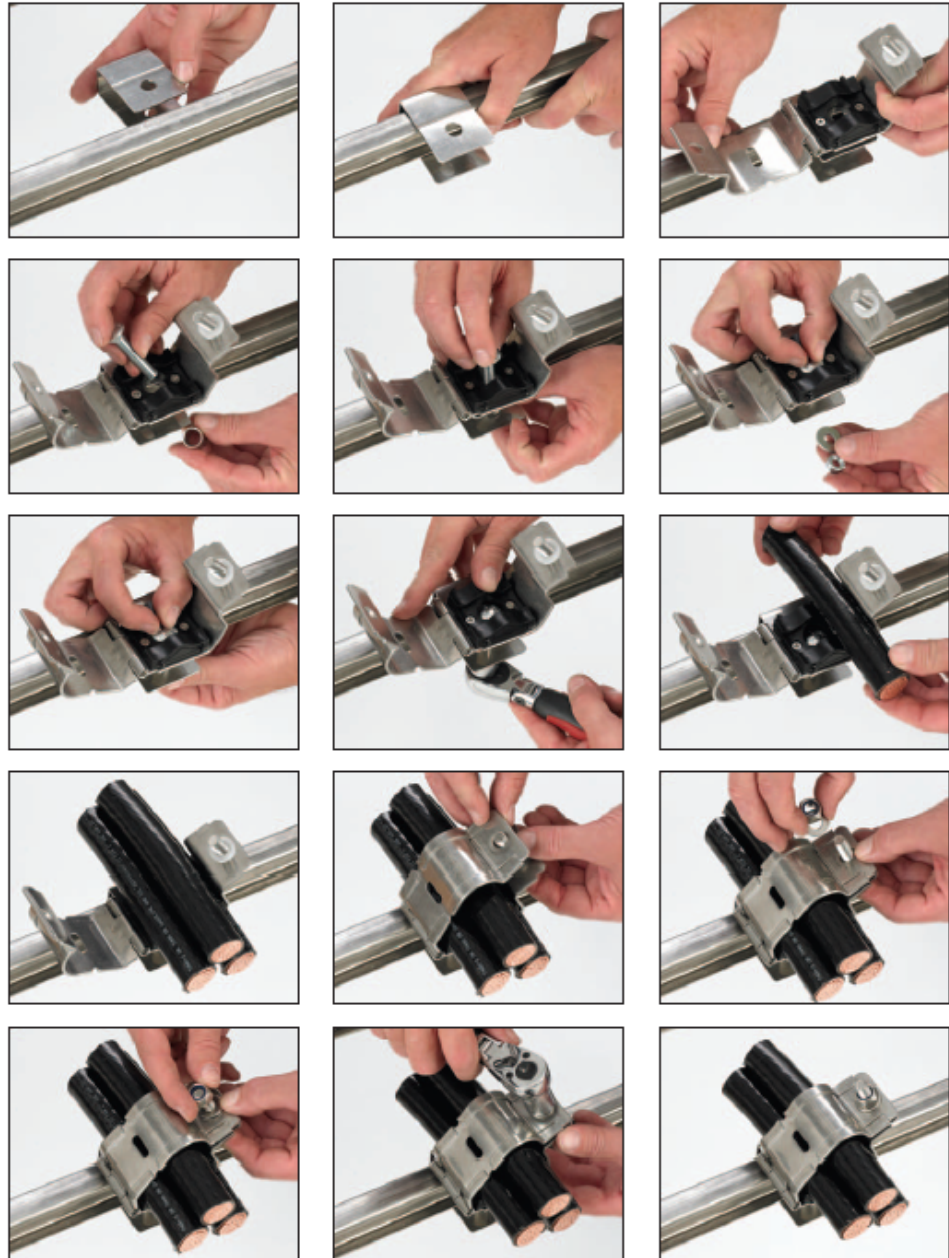

Figure 2-16: Step-by-step instruction to install cable cleats
- (f) Route wires along the cable tray to the ac disconnect switch, ensuring that the three phases (A, B and C) are bundled together in triangular patterns and cable cleats (Nautel Part # HO59) are used to properly secure wires to the cable tray (see Figures 2-16 and 2-17 for examples of proper techniques). Cable cleats are provided in the primary and secondary wiring kits to secure the larger ac wiring to the cable tray ladders. Secure cable cleat brackets (HX69) to the cable tray rungs using hardware provided with the cable cleat. Install cable cleats 3 ft. apart on straight ladder sections and 1 ft. apart on curved sections. See Figure 2-16 and Appendix D for detailed instructions to assemble and install cable cleats on cable trays.
- (n) Route wires along the cable tray to the NX power transformer, ensuring that the three phases (A, B and C) are bundled together in triangular patterns and cable cleats (Nautel Part # HO59) are used to properly secure wires to the cable tray (see Figures 2-16 and 2-17 for examples of proper techniques). Cable cleats are provided in the primary and secondary wiring kits to secure the larger ac wiring to the cable tray ladders. Secure cable cleat brackets (HX69) to the cable tray rungs using hardware provided with the cable cleat. Install cable cleats 3 ft. apart on straight ladder sections and 1 ft. apart on curved sections. See Figure 2-16 and Appendix D for detailed instructions to assemble and install cable cleats on cable trays.
- (d) Route secondary wires along the cable tray to the NX200 Transmitter, ensuring that the phase wires groups (three wires each) are bundled together in triangular patterns and cable cleats (Nautel Part # HO59) are used to properly secure wires to the cable tray (see Figures 2-16 and 2-17 for examples of proper techniques). Cable cleats are provided in the primary and secondary wiring kits to secure the larger ac wiring to the cable tray ladders. Secure cable cleat brackets (HX69) to the cable tray rungs using hardware provided with the cable cleat. Install cable cleats 3 ft. apart on straight ladder sections and 1 ft. apart on curved sections. See Figure 2-16 and Appendix D for detailed instructions to assemble and install cable cleats on cable trays.